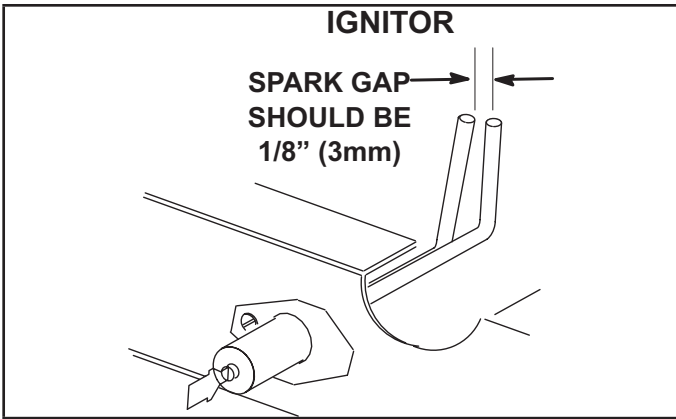

FIGURE 49
- 4 - Locate the ignitor under the left burners. Check ignitor spark gap with appropriately sized twist drills or feeler gauges. See FIGURE 49.
- 5 - Check the alignment of the ignitor and the sensor as shown in FIGURE 49 and TABLE 24.